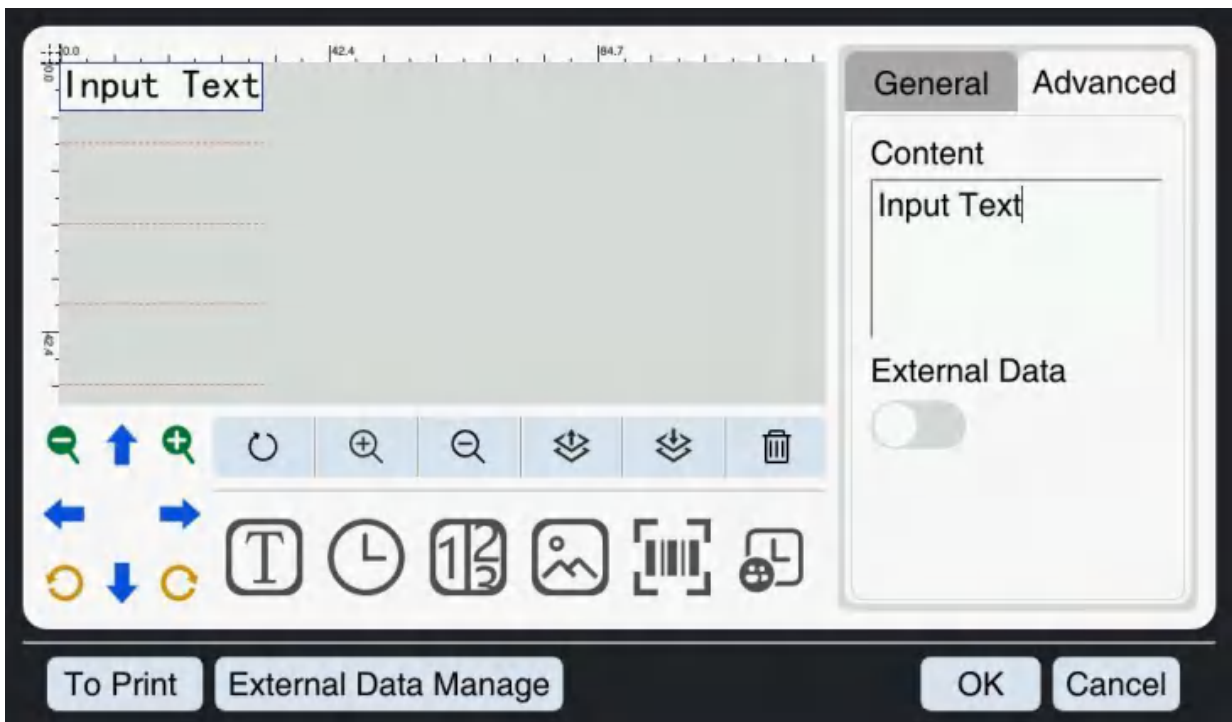

Figure 5-1 File Editing Interface
1、Clicking the  button on the main interface, and the system will enter the file editing interface. As shown in Figure 5-1. In this interface, you can enter the required information according to your own requirements.